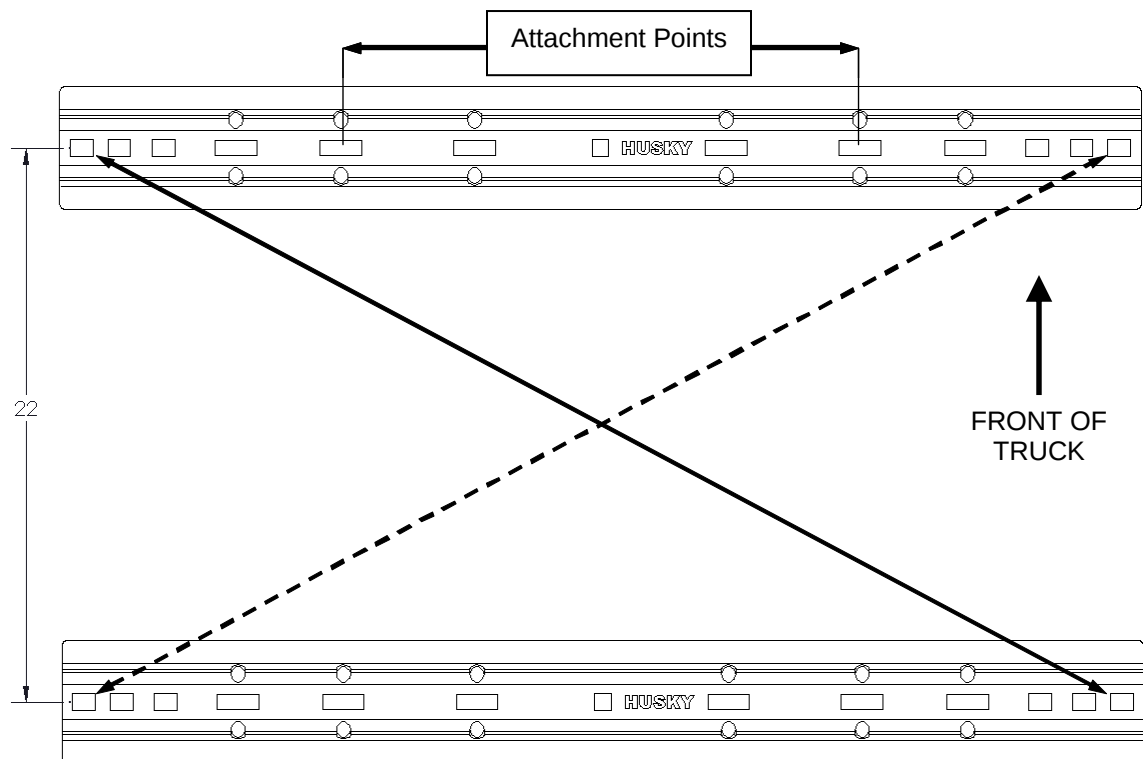

Figure 2
2. Position the bed rail assembly in truck bed as shown on Figure 1. Be sure bed rails are parallel by measuring diagonally as shown in Figure 2. Measurements should be less than 1/4" different.
3. Mark two attachment points on the truck using the slots in the front base rail as indicated on Figure 2.